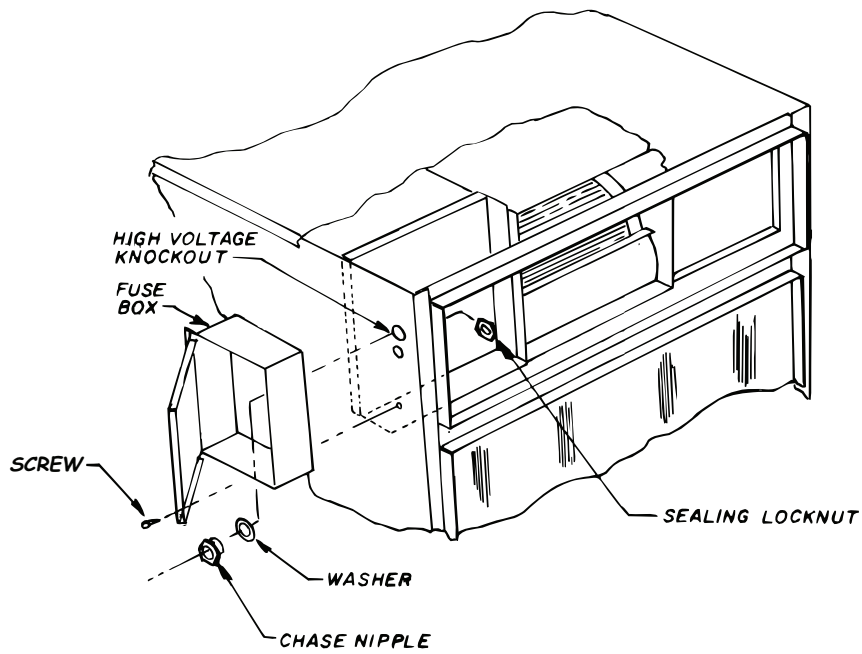

Figure 3. Typical Dual Element Heater
4. Remove the appropriate larger (1-3/8") high voltage entrance knockout on the side panel of the unit. See Figure 3. Remove unit insulation from the knockout opening.
5. Mount the fuse box on the side of the unit as shown in Figure 3. Place the chase nipple with the washer through the knockout on the unit and tighten sealing locknut firmly on the chase nipple.
6. Secure fuse box to the unit with the factory supplied screw. See Figure 3.
7. Slide the heater assembly into the cavity between the blower scroll and the discharge duct flange. See Figure 3.